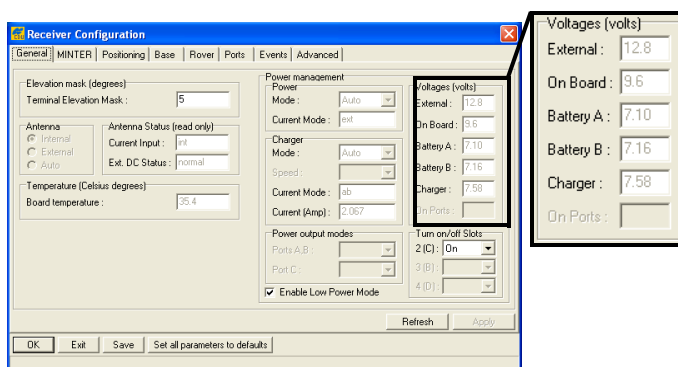

Figure 2-12. View Voltages Information
- View the *Voltages* information (Figure 2-12 on page 2-13).